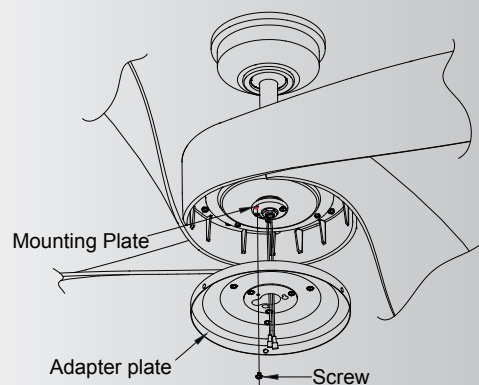

Fig. 19
**Step 1.** You will find one red label on the mounting plate. Remove this screw (near the red dot label) preinstalled on mounting plate and loosen the other two (do not remove). Place the two slot holes on the adapter plate over the 2 screws previously loosened from the mounting plate. Rotate the adapter plate until it locks in place at the narrow end of the key holes. Securely by tightening the 2 screws previously loosened and the one previously removed. (Fig. 19)